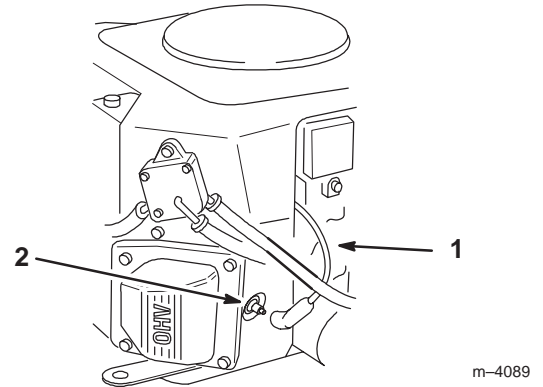

Figure 34
3. Pull the wire(s) off of the spark plug(s) (Fig. 34). Clean around the spark plug(s) to prevent dirt from falling into the engine and potentially causing damage.
3. Push the wire(s) onto the spark plug(s) (Fig. 34).